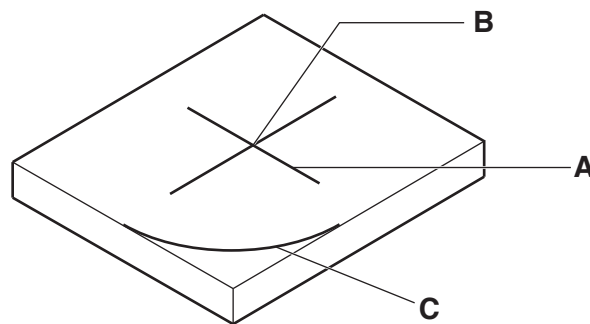

Fig. 1
- 2 Fig. 1 shows a block of metal marked out ready to be drilled.